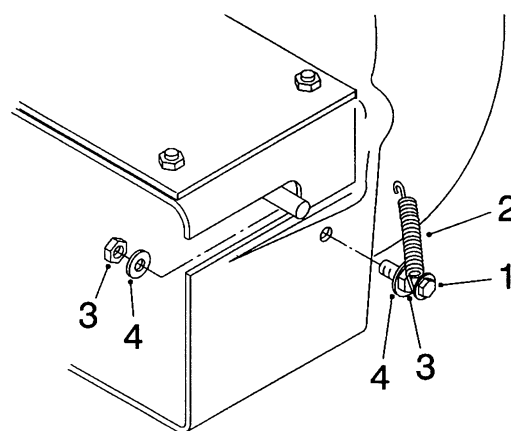

Figure 5
4. Insert the #10 x $\frac{3}{4}$ " screw through the extended loop at the end of the tension spring (Fig. 5). Screw one #10 nut to within $\frac{1}{8}$ inch (3.2 mm) from the screw head, allowing the spring to pivot freely (Fig. 5).
5. Slide one $\frac{7}{32}$ " washer onto the spring and screw assembly (Fig. 5). Insert the screw through the hole in the blower housing from the outside and secure in place with another $\frac{7}{32}$ " flat washer and #10 nut (Fig. 5). Tighten the nut snugly.